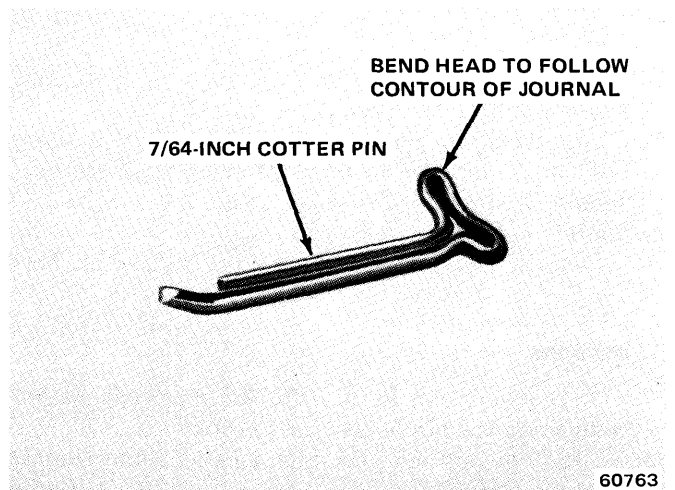

Fig. 1A-52 Upper Main Bearing Removal Tool
- (1) Drain engine oil.
- (2) Remove oil pan.
- (3) Remove lower insert from bearing cap.
- (4) Remove upper insert by loosening all other bearing caps and inserting small cotter pin in crankshaft oil hole. Cotter pin should be bent as shown in figure 1A-52.
- (5) With pin in place, rotate crankshaft so that upper bearing insert will rotate in direction of its locking tab.
NOTE: Since there is no hole in the number 4 main journal, a tongue depressor or similar soft-faced tool should be used to remove the bearing (fig. 1A-53). After moving the insert approximately one inch, the insert can be removed by applying pressure under the tab.